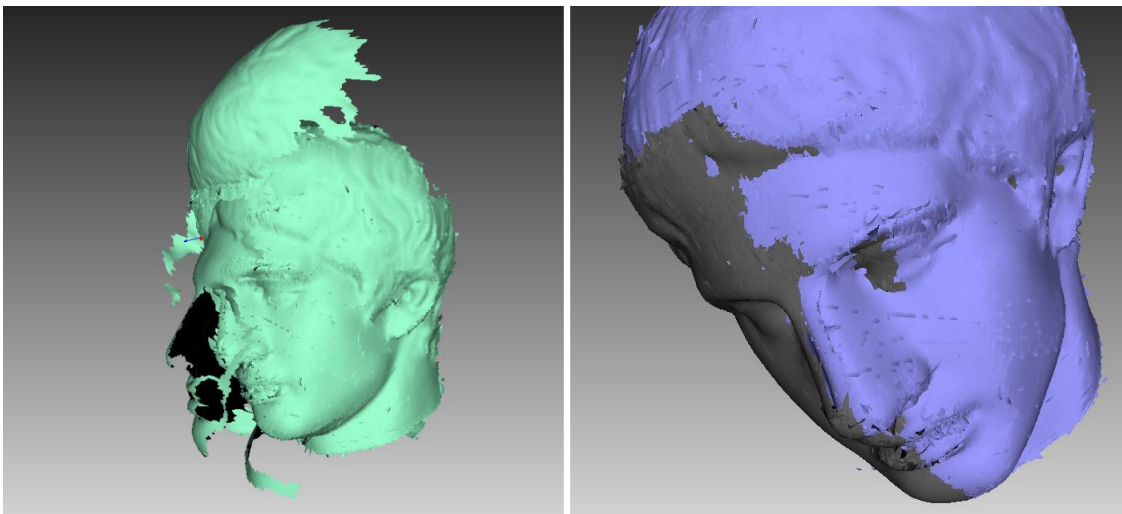

Figure 123: Global-registration errors: wrong settings on left and gap between scans on right.
- After the global-registration algorithm finishes, the frames are in disarray (see Figure 123, left) or the frame positions are unchanged. This error occurs because the application is configured for a different scanner type than the one that captured the data. Change the device type in the application settings (see Algorithm Settings).
- The algorithm has completed successfully, but a gap exists between two or more scans (see Figure 123, right). Select just these scans in the *Workspace* panel and run the global-registration algorithm. If the scans have drawn closer to each other but have failed to align after the algorithm finishes, increase the number of iterations and rerun the algorithm. Repeat this process until you achieve full alignment, then run global registration once again for all data. If you are unable to align several problematic scans, try aligning just two of them, then gradually increase the number of scans until all of them are aligned.